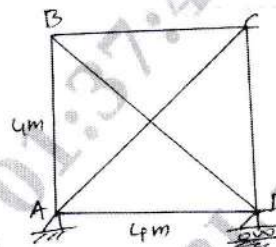

Fig.Q.6
- 6 In a pin jointed frame shown in Fig.Q.6, the member AC found to have lack of fit by 1.5mm. Determine the forces in all members when AC is forced into position. The cross sectional area of diagonal members is  $1000\text{mm}^2$  and  $200\text{mm}^2$  for remaining members. Take  $E = 2 \times 10^5 \text{ N/mm}^2$ .